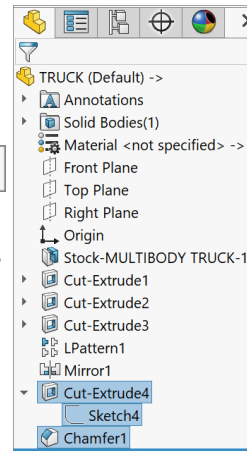

Fig. 35
Step 1. Expand **Cut Extrude4** in the Feature Manager. **Ctrl click Sketch4, Cut Extrude4 and Chamfer1** to select sketch and features, **Fig. 35**.